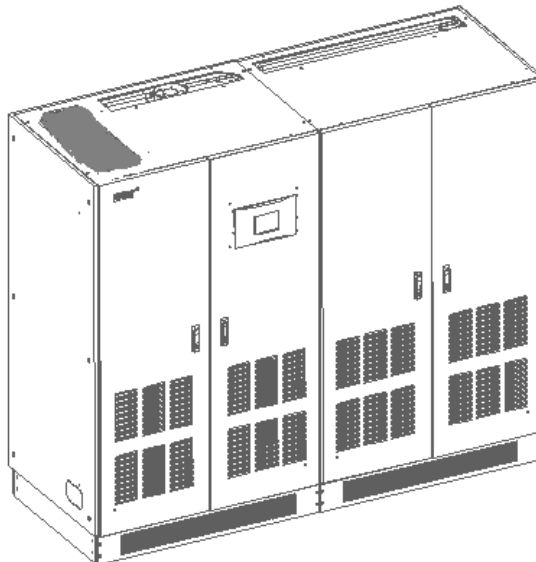

Figure 31: Side-by-side placement of 400~600KVA UPS rectifier cabinet and inverter cabinet
1. Side-by-side placement: place the rectifier cabinet and inverter cabinet side by side as shown in Figure 31. Don't leave any gap between the two cabinets which should be placed in the same level.